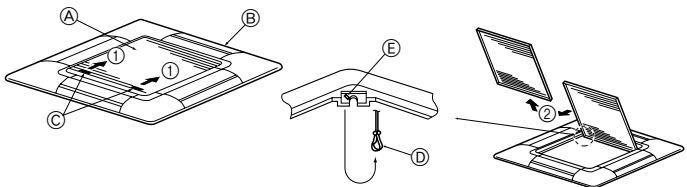
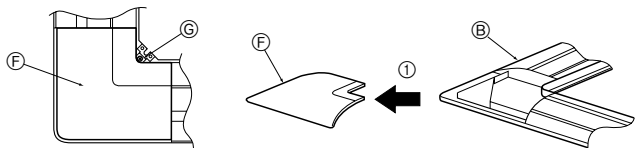

Fig. 5-3
Fig. 5-4
5.2.1. Removing the intake grille (Fig. 5-3)
- Slide the levers in the direction indicated by the arrow ① to open the intake grille.
- With the intake grille in the "open" position, remove the hinge of the intake grille from the grille as indicated by the arrow ②.
5.2.2. Removing the corner panel (Fig. 5-4)
- Remove the screw from the corner of the corner panel. Slide the corner panel as indicated by the arrow ① to remove the corner panel.
- ① Intake grille
- ② Grille
- ③ Intake grille levers
- ④ Grille hook
- ⑤ Hole for the grille's hook
- ⑥ Corner panel
- ⑦ Screw